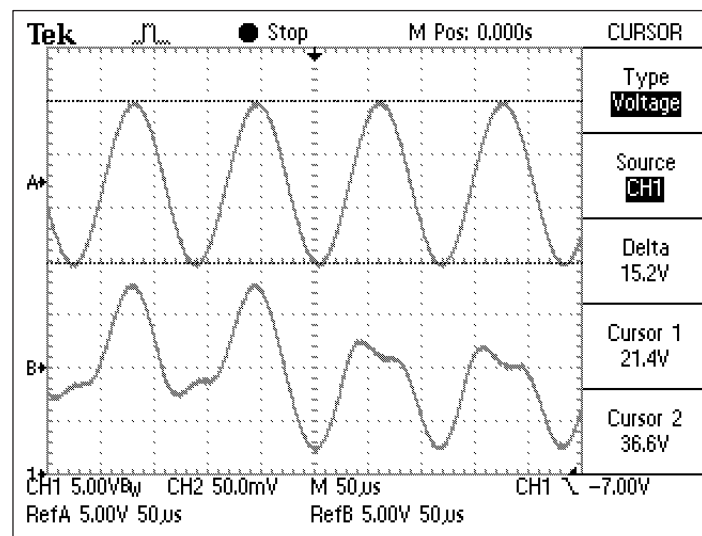

Figure 5.2: True velocity signal (A) and signal when the tracking filter loses lock (B)
- For average velocities and frequencies, the acceleration limits of the tracking filter have to be taken into account. The optimum setting has to be found using the range diagram. If the velocity or acceleration limit of the tracking filter is exceeded, then the internal phase-locked loop loses lock. The signal is then distorted roughly. In FIGURE 5.2 you can see an example of an oscillogram showing a distorted signal. Signal A shows a sinusoidal velocity signal with the tracking filter switched off. Signal B shows the same signal with the tracking filter switched on in **Slow** mode. Here the tracking filter is at the limit of losing lock and the signal is partially being distorted.